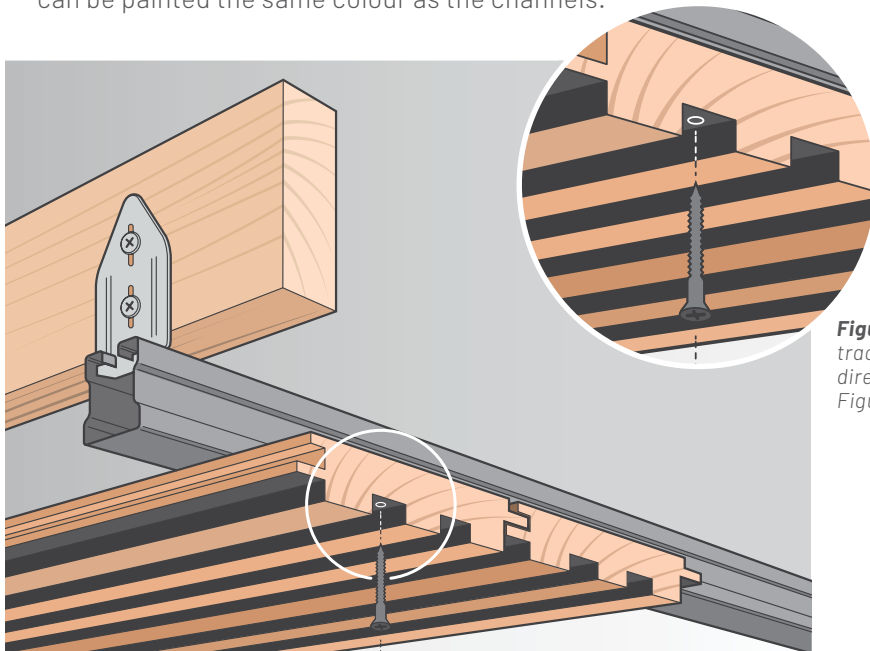

Figure 3: Panelling installation using metal track system and face fix: face screw directly using a coloured head screw (see Figure 4).
- **Castelation® panelling with channels** can be screwed through the channel to the metal track. One screw per board, per track is sufficient (see Figure 3). This works particularly well with the Castelation® Two Tone product as the screw heads can be painted the same colour as the channels.